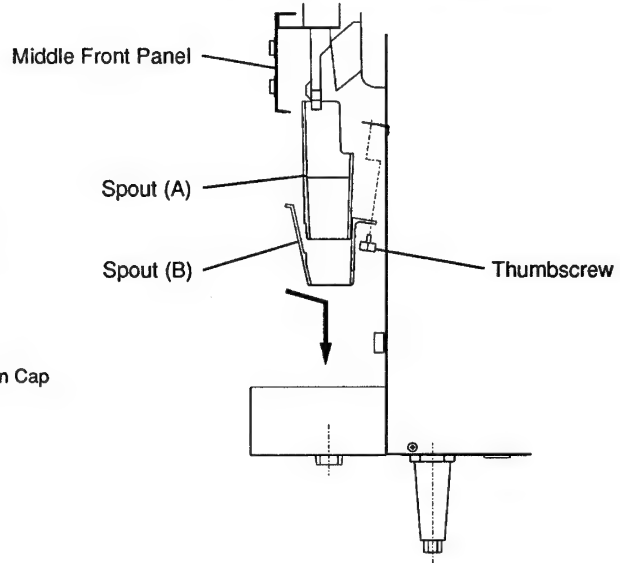

Fig. 4
Remove the Spout (A) and (B) by removing the Thumbscrew, sliding the Spouts backward and then pulling them down. See Fig. 4. Pull out the Spout (A) from the Spout (B).